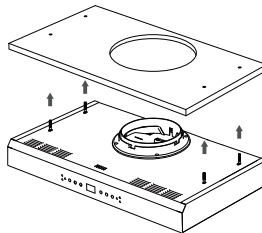

Fig 8
- As shown in Figure 8, lift the body, align it with the opening position, and insert the double-head screws into the holes.